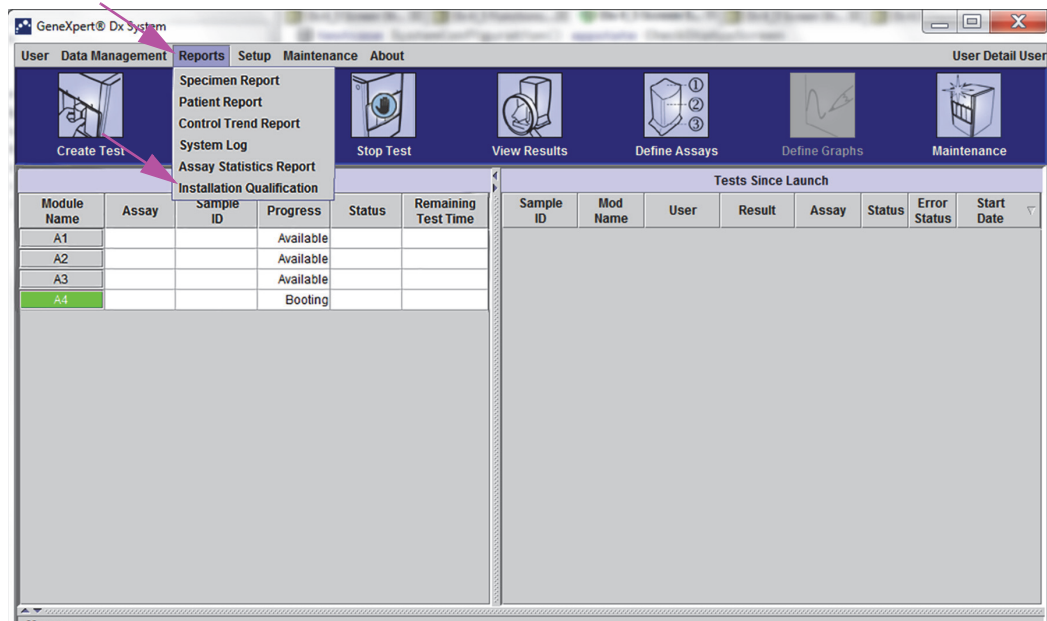

Figure 2-47. GeneXpert Dx System Window showing Reports Drop-Down Menu and Installation Qualification Selection
1. In the GeneXpert Dx System window, on the **Reports** menu, click **Installation Qualification**. See Figure 2-47.